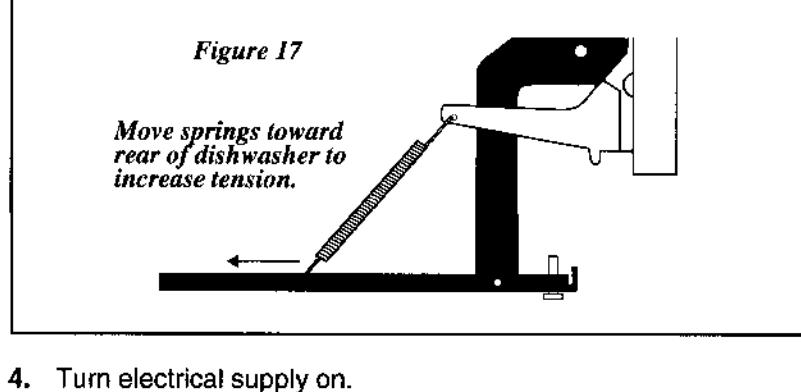

Figure 17
- If necessary, increase tension by moving springs to a hole toward rear of unit or decrease by moving them toward front. See Figure 17.